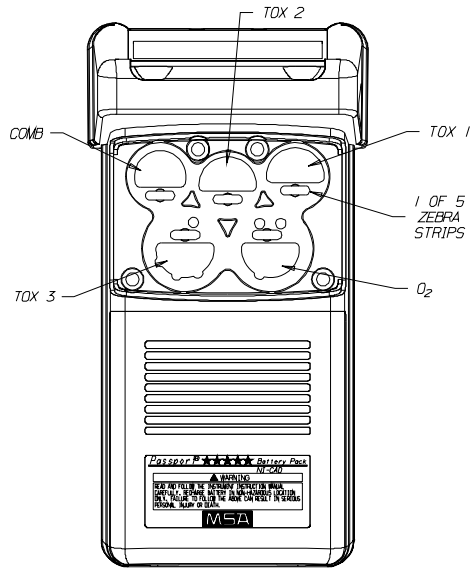

Figure 1-2. Sensor and Zebra Strip Locations in Sensor Cavity
3. Remove sensor cover screws and sensor cover (FIGURE 1-2).